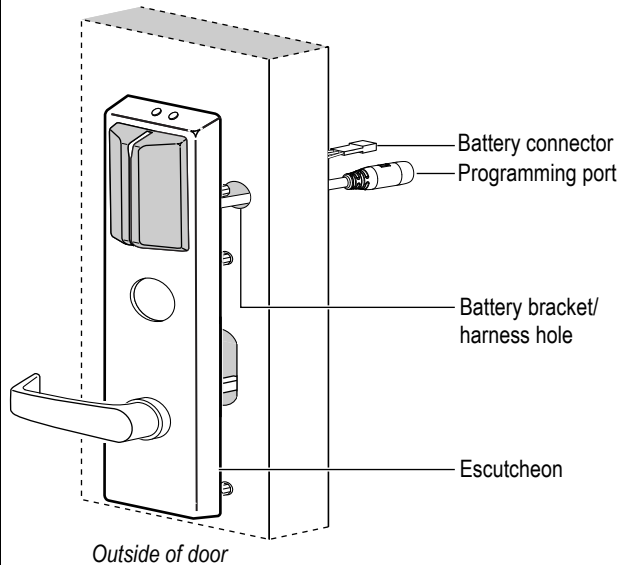

Figure 9 Feeding the wire harness connectors through the battery bracket/harness hole
- 1 From the outside of the door, feed the wiring harness and the connectors through the battery bracket/harness hole as shown in Figure 9.